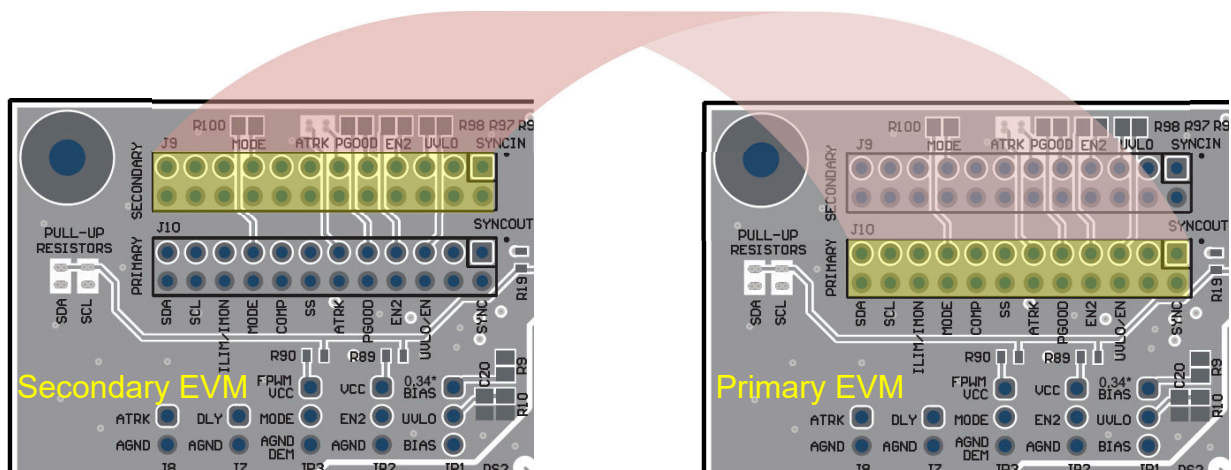

Figure 3-2. Connecting the Primary EVM and Secondary EVM with Ribbon Cable
4. Connect J10 of the primary EVM and J9 of the secondary EVM with ribbon cable. Refer to Figure 3-2.